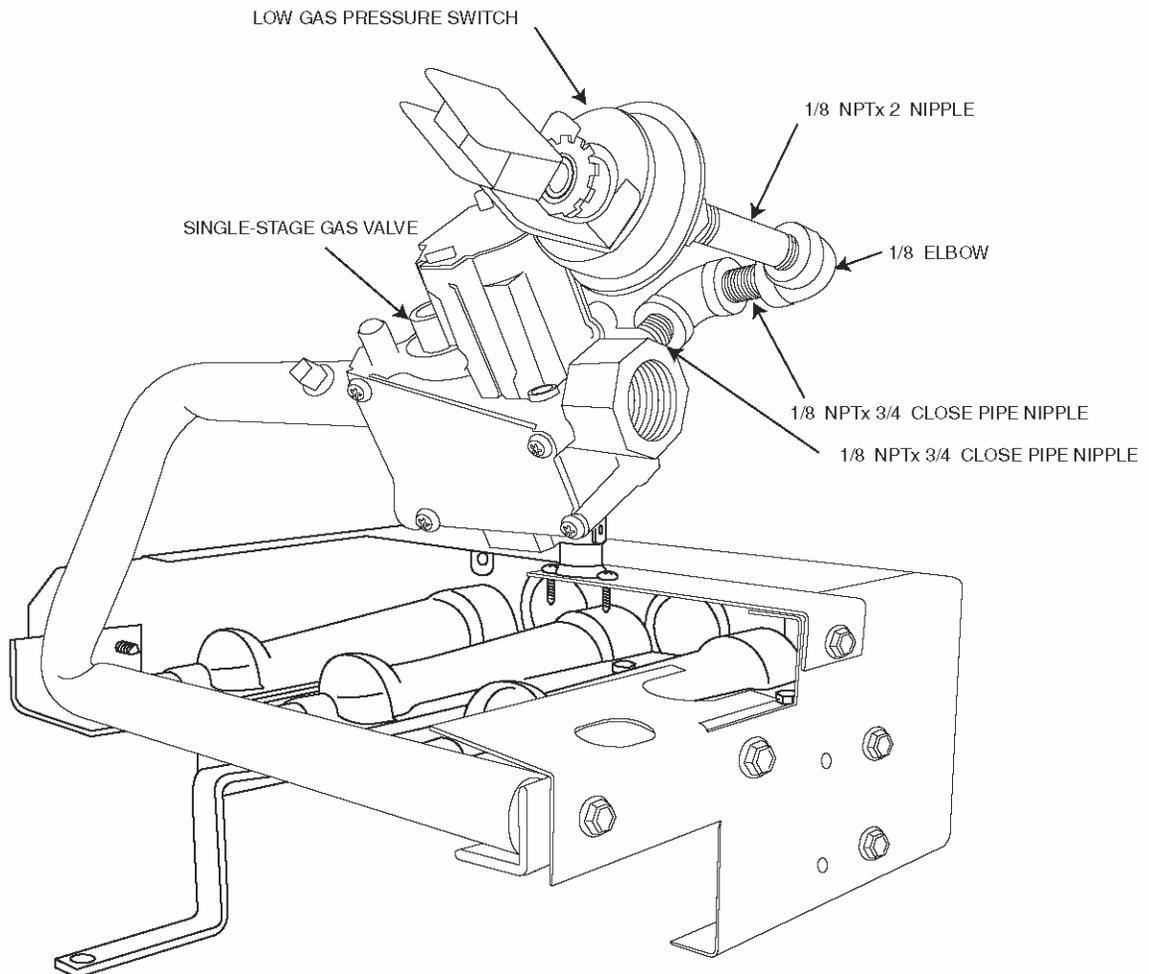

Figure 9
4. Remove the screw attaching the gas manifold to the basepan, and partially slide out the entire burner rack assembly from unit. Save screw. The fan partition mounting bracket may be removed for easier access to the burner assembly. The bracket may be removed by removing 2 screws (located on the left side of the control compartment on the fan partition panel) and sliding the bracket forward, bottom first. See Fig. 9.
mounting bracket was removed, slide bracket back into place and fasten with 2 screws (see Fig. 9).